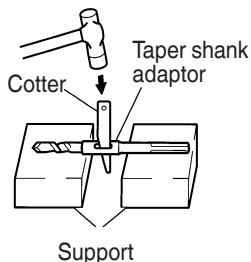

Fig. 15
(2) Turn the power on and drill a base hole.
(3) After cleaning out dust with a syringe, attach the plug to the anchor tip and drive in the anchor with a manual hammer.
(4) To remove the drill bit with taper shank, insert a cotter into the slot of the taper shank adaptor, place supports under the Rotary Hammer and tap the cotter with a manual hammer. (Fig. 15)